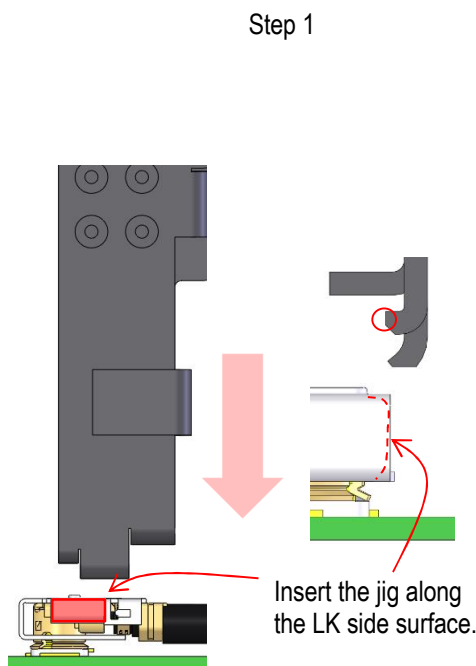
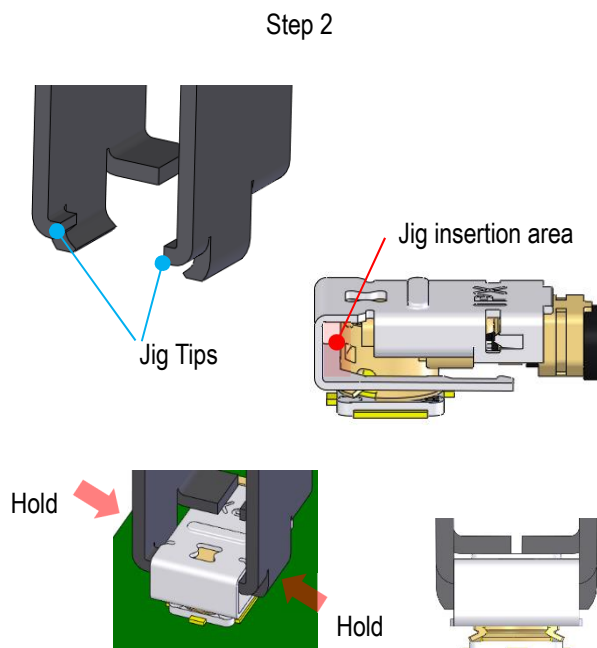

Fig.22
Fig.23
- ① Set a finger on the surface indicated in a red box in Figure 22 and push the LK to the direction indicated in red arrow.
Set the jig from above the connector as shown Figure 22, and insert the jig tip to the LK designated area described in Figure 23.